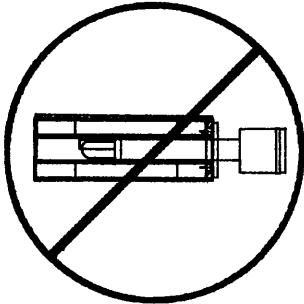
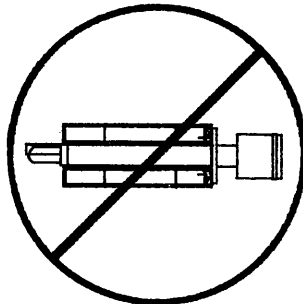
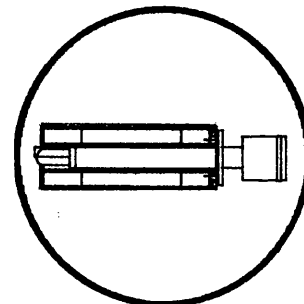

Figure 1
Figure 2
Figure 3
The PMJ must be insulated when installed as shown in Figure 3 of the PMJ Brochure. This must be done in order to protect the PMJ and probe from direct radiant heat effects from the flame. The recommended thickness of the insulation is 3". Anchors must be used to secure the insulation to the PMJ. A variety of castible refractory materials may be used to insulate the PMJ. A.P. Green Platic Mix 318 is suitable for steam generator applications.
The probe in Figure 3 is shown with the proper insertion depth. The probe in Figure 2 is shown with an insertion depth that is too long, and Figure 1 is shown with an insertion depth which is too short.
3. Select the location on the stack to install the PMJ. Verify that the area is clear of internal and external obstructions that will interfere with the installation. The PMJ must be positioned so that the gas stream it is inserted into is representative of the process. Best results are normally obtained if the PMJ is positioned on the center line of the stack with 20% insertion into the gas stream. In addition, the sensing point should be selected so that the process temperature does not exceed 2000° F (1093° C). Figure 3-A provides mechanical installation references. Installation of the PMJ must include insulation as indicated in Figure 3-A. This insulation is usually castable refractory which is applied to stainless steel "V" anchors. The anchors are attached to the PMJ after insertion into the duct, or the skin of the vessel.
- A. The PMJ must be installed in such a way as to avoid radiated heat from the flame impacting the tip of the Probe. This can be done by mounting the PMJ with the process end angled away from the flame. (See Fig. 3-B).